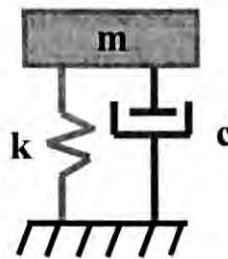

Figure 1
- [1] Derive and solve the equation of motion for the system presented in Figure 1? **Estimate the displacement** at $t = 0$ & 0.25 sec by using the following data $\phi = 0$, $m = 10 \text{ k-sec}^2/\text{ft}$, $k = 15 \text{ k/ft}$, $c = 0.0912 \text{ k-sec/ft}$, $\zeta = 3\%$, $\omega = 1.1 \text{ rad/sec}$, $C_1 = 0.5$, $C_2 = 1.5$.